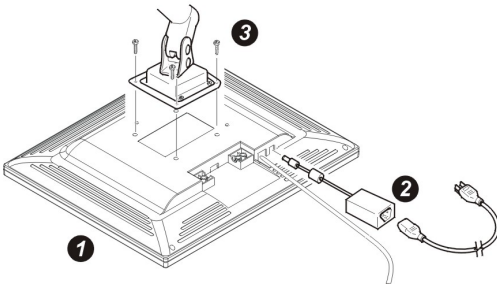

Figure 7: Installing a Wall-Mounting Arm
(See Figure 7.)
- 2 Insert the four screws into the holes and tighten (see Figure 7). Be careful to not over tighten the screws.